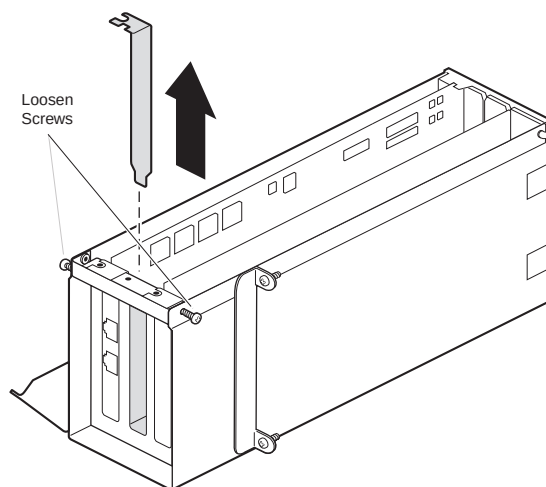

Figure 4 Removing the panel for a new card
- 5.) Lie the module on its right side and loosen the two phillips screws that hold the left side access cover (see Figure 4). Then lift and remove this cover.
- 6.) Remove two (2) filler plates (these will not be reused). Retain the mounting screws for reuse.